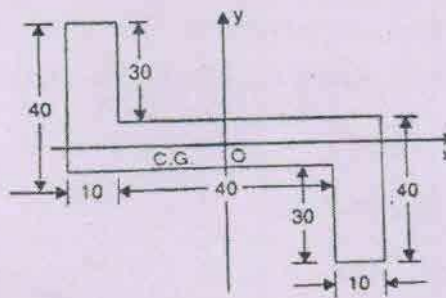

Fig.1
- (b) Determine the diameter of a solid steel shaft which will transmit 90 kW at 160 rpm if the maximum shear stress is limited to 60 N/mm^2 . (5)
- (a) What do you mean by the term neutral axis? Prove the relationship $\frac{M}{I} = \frac{E}{R} = \frac{f}{y}$ for simple bending. (10)
- (b) A rectangular beam 100 mm wide and 250 mm deep is subjected to a maximum shear force of 50 kN, find the shear stress at a distance of 25 mm above the N.A. (5)
- (ii) deflection under each load and at the centre. (10)
- (b) Find the expression for the slope and deflection of a cantilever of length L which carries a point load W at the free end. (5)
- (a) For the section shown in Fig.1 determine the moment of inertia about its
- (ii) new axes which is turned through an angle of 30° anticlockwise to the old axis. (10)